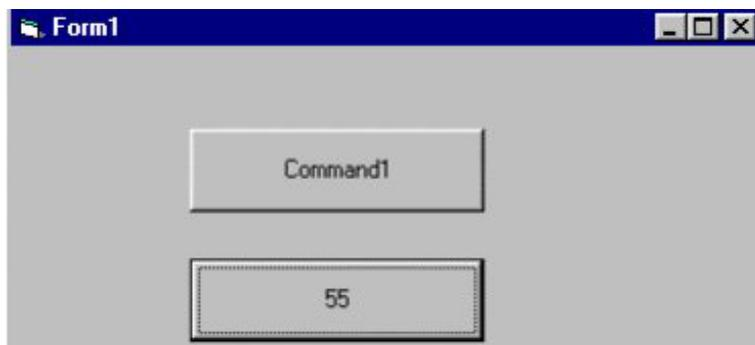

Figure 1-1-10. Use the "AnalogIn" function to obtain the analog input value
11. Run the program and click the "Command2" button. The caption of the button will show the analog input value from the module. Refer to Figure 1-1-10.